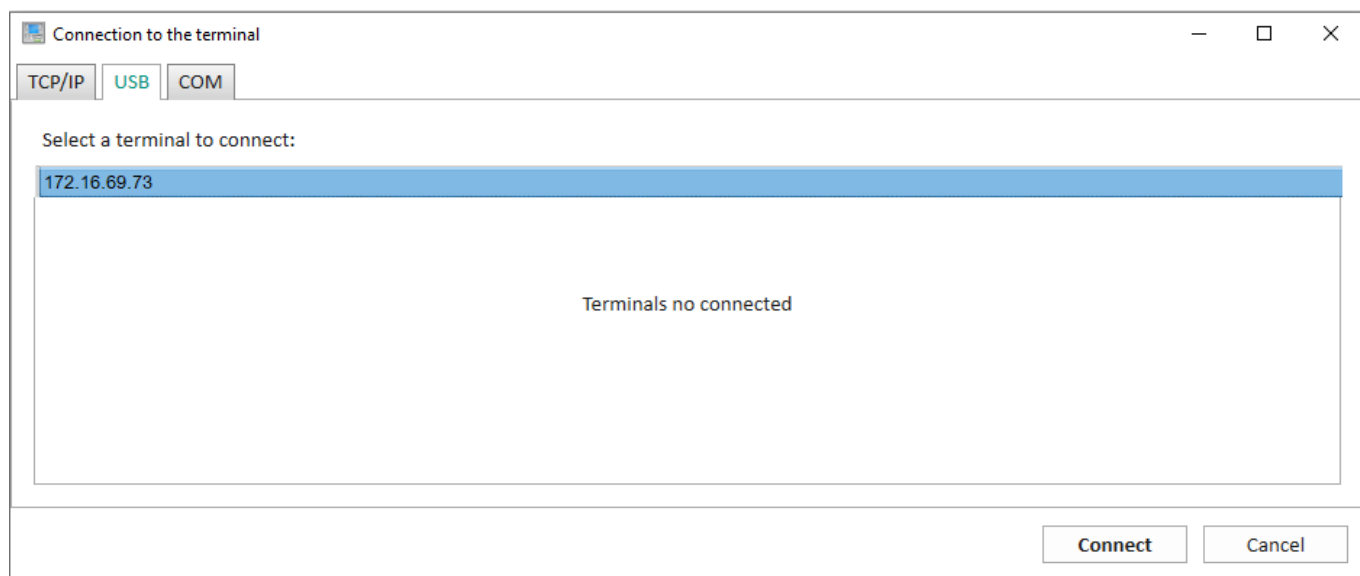

Figure 4 – **USB** tab
– **USB**. This tab automatically searches for devices connected via USB. To connect, select a device from the list and click the **Connect** button (Figure 4);